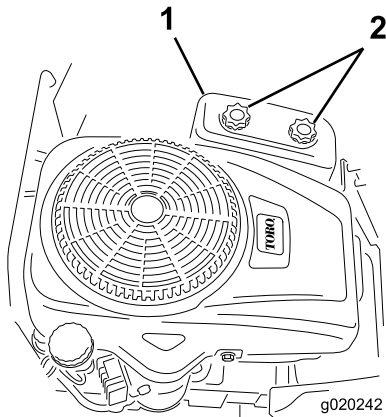

Figure 36
4. Remove the air-cleaner cover by unscrewing the 2 knobs (Figure 36).
3. Install the air-cleaner cover, and tighten the 2 knobs (Figure 36).